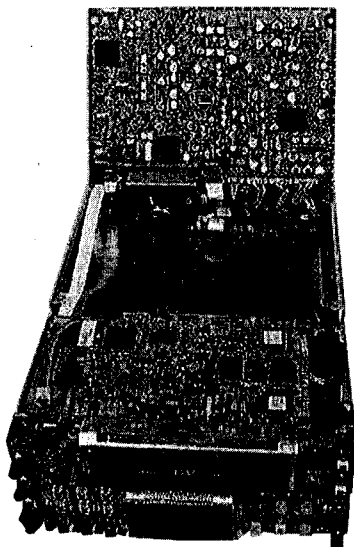

Fig. 1-3-4
- (1) Remove the 4 screws (S2).
- (2) Stand the board on the chassis slit as shown in Fig. 1-3-4 during diagnosis.